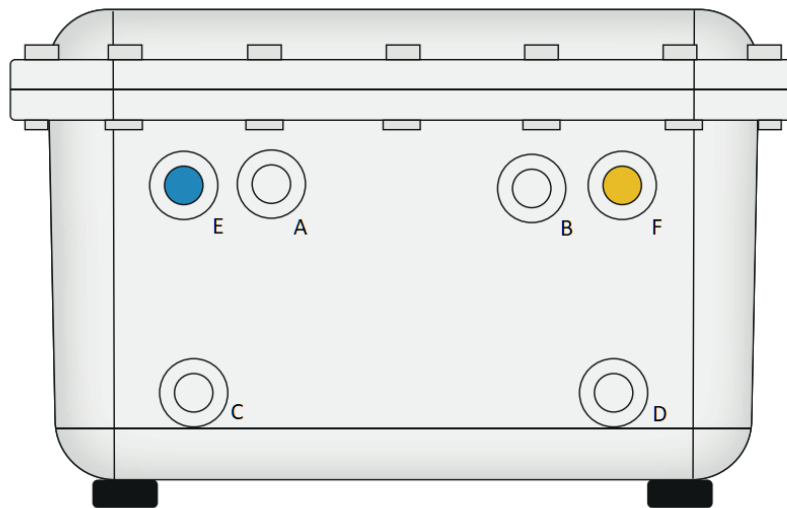

Figure 3: iWAP107/iRFID107 Aluminium Enclosure External Entries and Connections
A typical iWAP107/iRFID107 enclosure is supplied with entries and connectors as shown in Figure 3.
**Refer to Figure 3 for location of Intrinsically Safe RF outputs of iWAP107/iRFID107 with "B4" layout as example**